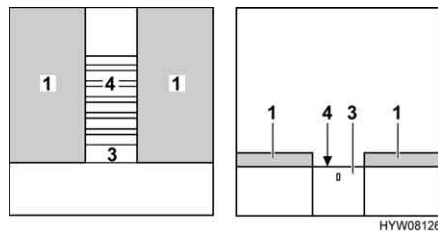

Fig. 116 During conversion
- If a locking mechanism is attached to the extension (Fig. 116,3): Reach behind the surround and unlock the extension.
- Pull out the slatted frame (Fig. 116,4) and/or the extension as far as it will go.